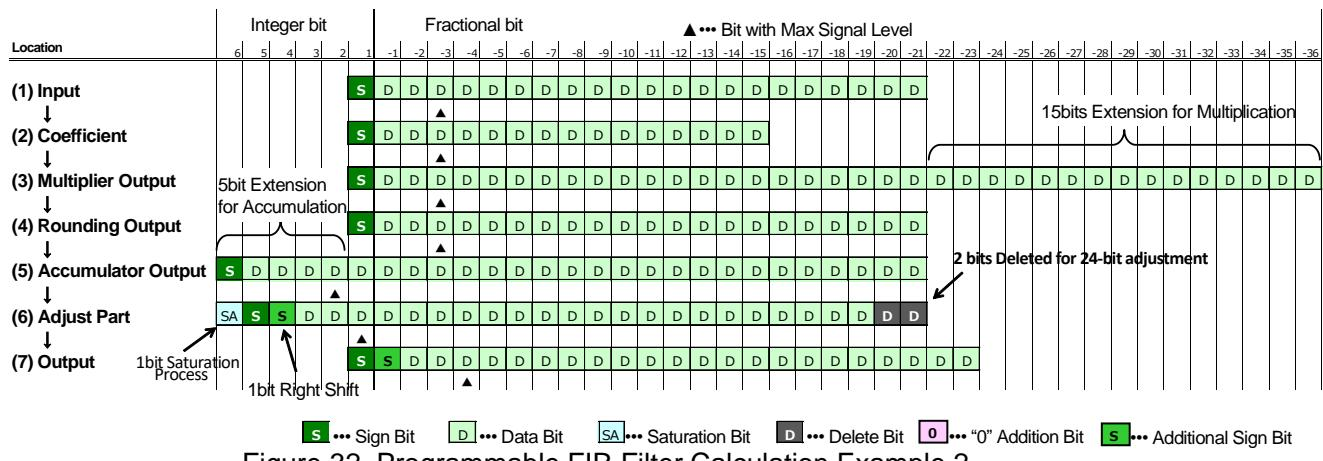

Figure 32. Programmable FIR Filter Calculation Example 2
- (1) Input bit length is (1.21). As shown in Figure 15, level diagram, the maximum input signal level of programmable FIR filter is -13dBFS at full scale range. Therefore, the maximum signal is at -3 Fractional bit (\blacktriangle) in Figure 32.
- (2) Coefficient written by register setting. It has (1.15) bit length.
- (3) Multiplication result of (1) and (2). Input signal is extended 15 bits according to the bit length of the maximum coefficient.
- (4) Round the data off to 21 bits to reduce the circuit size.
- (5) Higher 5 bits are extended for accumulation. In this case, there is no excess bit since the maximum value of the absolute total coefficient is input. The maximum signal bit is shifted 2 bits to the left because the filter DC gain is 16 times larger (+24dB).
- (6) Execute saturation process. In this example, 1-bit saturation process is executed. LSB 2 bits are deleted to make the bit length to 26-bits after the saturation process. The data is shifted 1 bit to the right and added "0" to the MSB as PFIL_SIFT[2:0] bits are set to "111".
- (7) At final output, the decimal point is shifted 1-bit to the left and the data becomes (1.23). It expresses that the input signal is decreased by 6dB, and the digital filter total gain is -12dB (-19dBFS).